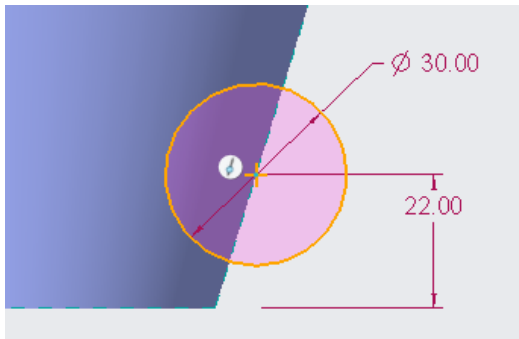

Figure 15-122 Sketch of the cylindrical surface
4. After entering the Sketcher environment, draw a circle and dimension it, as shown in Figure 15-122.